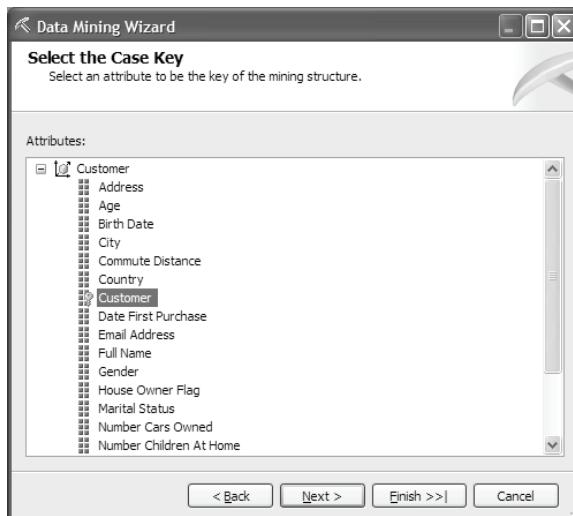

Figure 8.2 Select the dimension attribute which will qualify the mining cases.
- In the Select the Case Key step (Figure 8.2), we need to tell the wizard what our mining case will represent. In our scenario, the grain of our mining model will be the individual customer. Therefore, we will set the case key to the *Customer* dimension attribute. If we wanted to find patterns at another level, e.g. customer city, we would use that attribute instead. In this case, the input set will contain the distinct members of the City attribute.